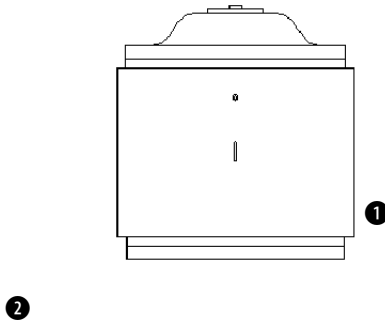

Figure 10-38: The drive block section, after several grip edits, looks a little like a cookie jar.
12. Pick the grip at the midpoint of the bottom line. Right-click and choose Move from the shortcut menu. At the Specify move point or [Base point/Copy/Undo/eXit]: prompt, type @0,-3 ↵. The model should look like Figure 10-38.
13. Press Esc to remove all grips. Define a crossing window by picking first at ❶, and then at ❷ (see Figure 10-38).